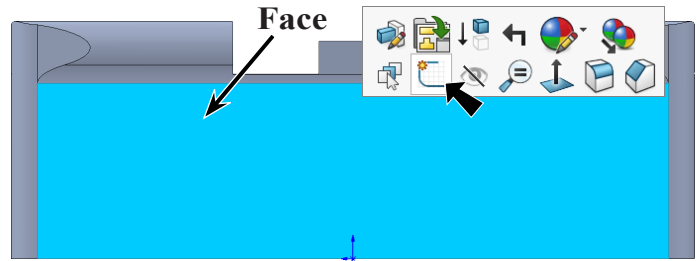

Fig. 83
Step 2. Click the **rear face** and click **Sketch**  on the context toolbar, Fig. 83.